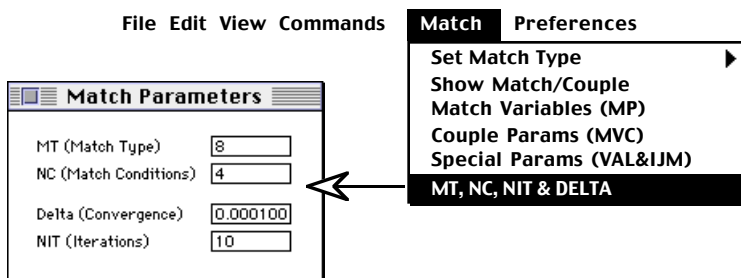

Figure 4-2. Match Parameters Window.
The PowerTrace interface sets the number of matching conditions (NC) and has built in defaults for the number of iterations and convergence criteria (NIT and DELTA). The parameters MT, NC, NIT and DELTA may be viewed, and changed, by selecting the last item in the Match menu shown in Figure 4-2. This will bring up the “Match Parameters” window which displays the current values for these parameters.